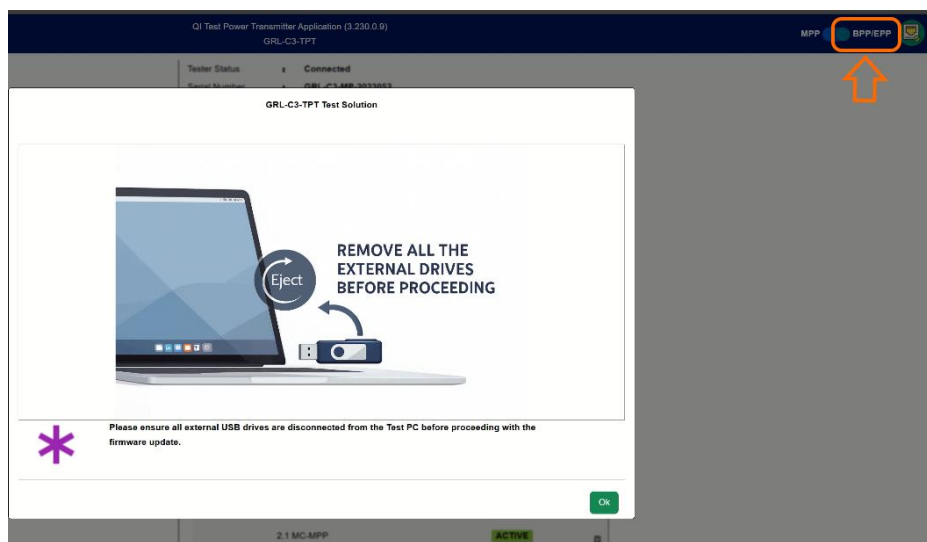

FIGURE 7.13: SWITCH TO BPP/EPP POWER PROFILE
1. Slide the toggle to **BPP/EPP** as indicated in Figure 7.13 below. Check that all external USB drives are disconnected from the Host PC before proceeding with the firmware update and click **Ok**.